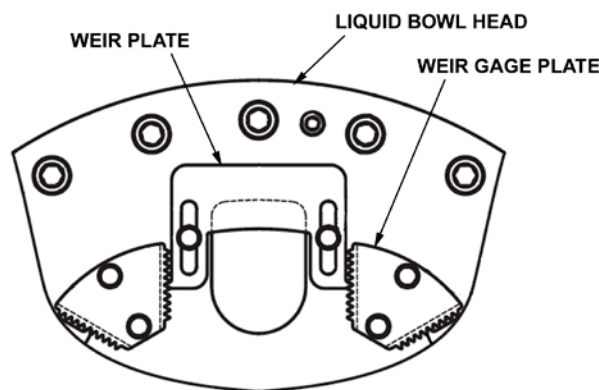

Figure 4-4. Weir Plate Adjustment
3. Loosen screws securing the weir plates (Figure 4-4), move the weir plates to the required weir opening size, and re-tighten screws to torque specified in Section 5.